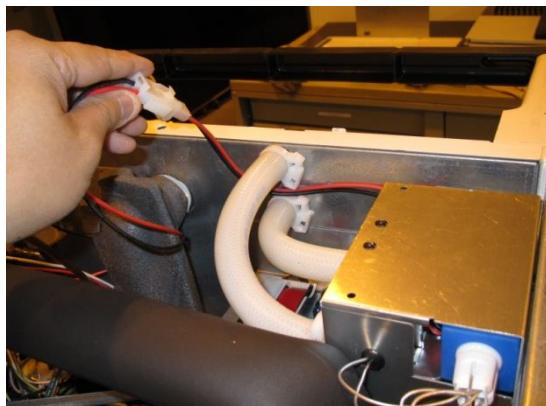

Figure 14
IceZone® Closed Loop requires a 12VDC, 2.1A power supply for operation. It is recommended that the unit be powered through 90-240VAC, 50/60Hz, available from the ice maker power supply. The unit may also be powered by the ice maker control board (see Figure 14). The unit may also be powered by a external power supply such as a 90-240VAC power wall adapter (with output of 12VDC, 2.1A as required).
- 9) Connect the power supply cable to the power supply (see Figure 14)